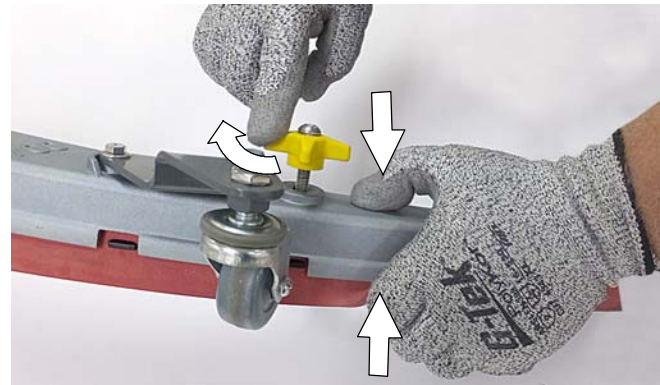

FIG. 149
5. Squeeze the squeegee frame and blade retainer together and re-tighten the two outside knobs (Figure 149).